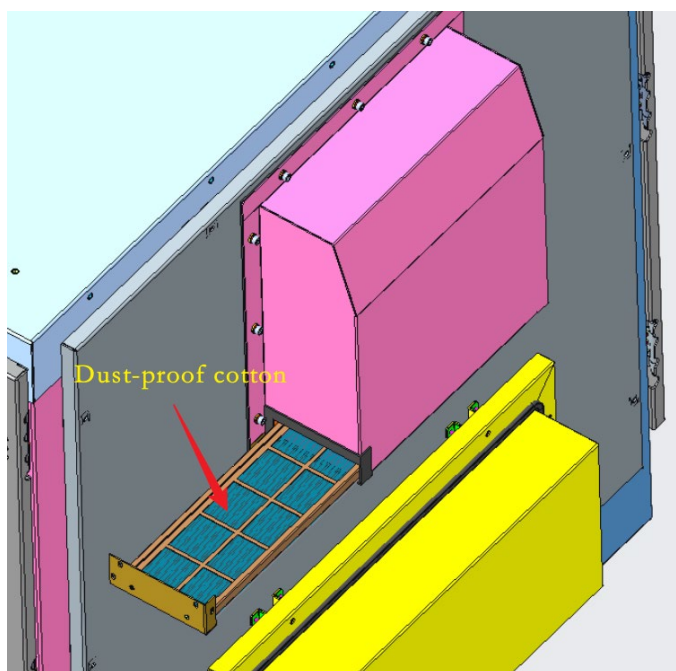

Figure 4-3 Schematic diagram of dismantling dustproof cotton structural components-2
- After removing the dust-proof cotton structural components, remove the internal dust-proof cotton for cleaning and replacement. After completion, install the dust-proof cotton structural components in their original positions, as shown in Figure 4-3 below